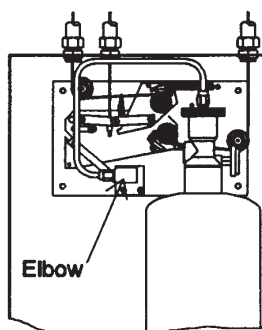

Figure 4-29. Single Cylinder Installation with Model EN-MCU3 Mechanical Control Unit.
- of the Model EN-MCU3 Enclosure. See **Figure 4-29**.